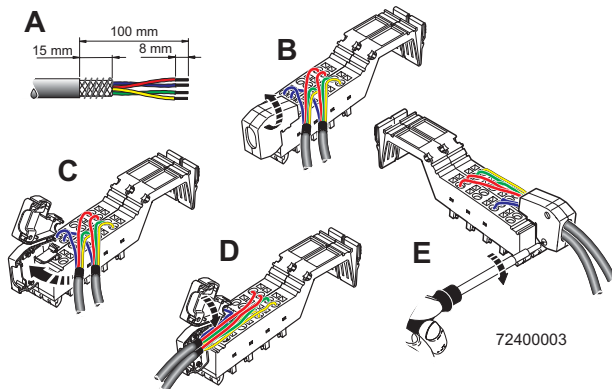

Figure 3 Example: Wiring of the IB IL 24 FLM-PAC and IB IL 24 SEG/F-D-PAC terminals
Stripping the Outer Cable Sheath and Cables (Figure 3, Detail A)
- Open the shield connection (Figure 3, detail B).
- Insert the cable (Figure 3, detail C).
- Close the shield connection (Figure 3, detail D).
- Tighten the screws on the shield connection with a screwdriver (Figure 3, detail E).